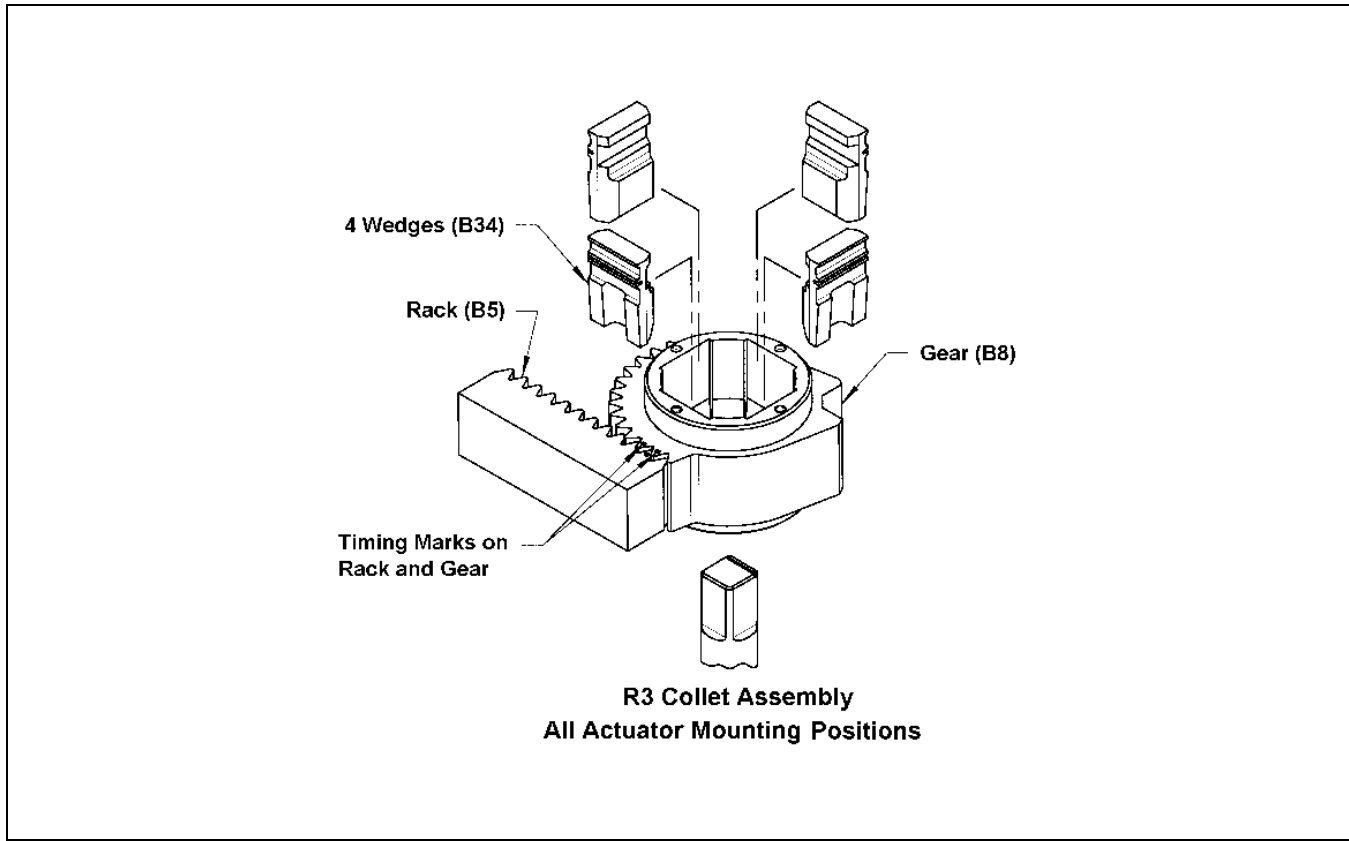

Figure 3 – Collet Assembly
10. With the four tapped holes facing upwards, place the gear (B8) into the housing bearing (B2) so that the marked tooth on the rack (B5) meshes between the two marked teeth on the gear as shown in Figure 3.
Follow the steps below to change the unit from the unlocked condition to the locked closed position. Refer to Figure 3 for component identification. Before proceeding, the open and closed position stops must be correctly adjusted as described in the *Open and Closed Stops* section.